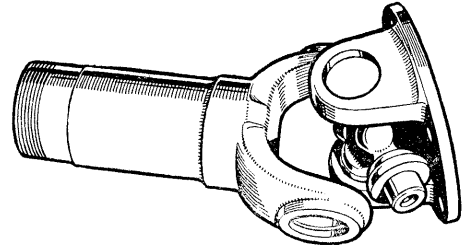

Fig. D-4—Removing the splined sleeve or shaft
8. The splined sleeve (or shaft) yoke can now be removed. (Fig. D-4.)